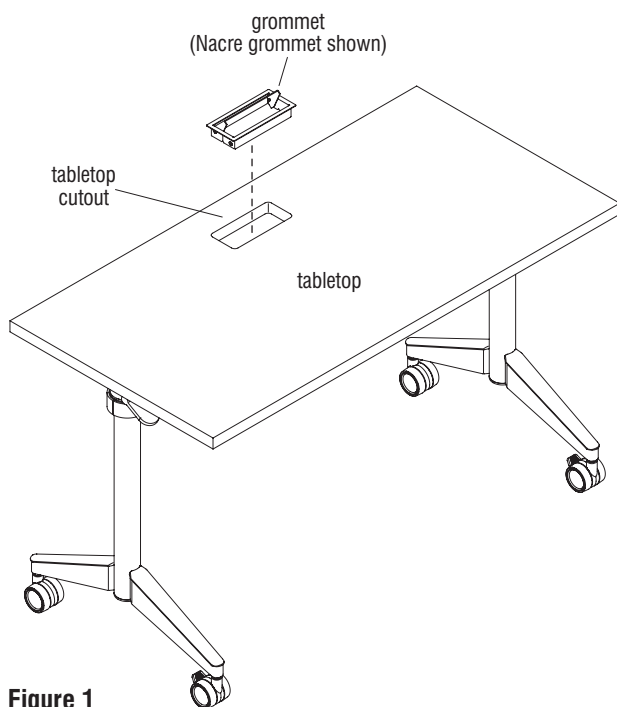

Figure 1
1. Position the Dean or Nacre grommets above the tabletop cutouts with the lid opening towards the user (Figure 1 & Details A or B).
2. Push the grommets into each cutout, tapping lightly with a rubber mallet if required. Use caution to avoid scratching the grommet (Figure 1 & Details A or B).